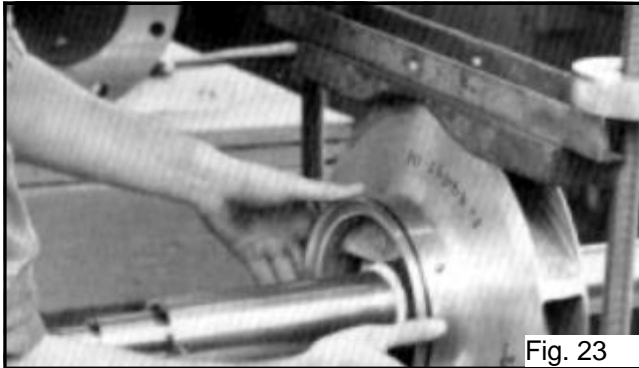

Fig. 23
- Lubricate and roll an O-ring (3-914-2) into the groove in each casing ring (3-003-9) and slide the casing rings over the impeller (See Fig. 23).